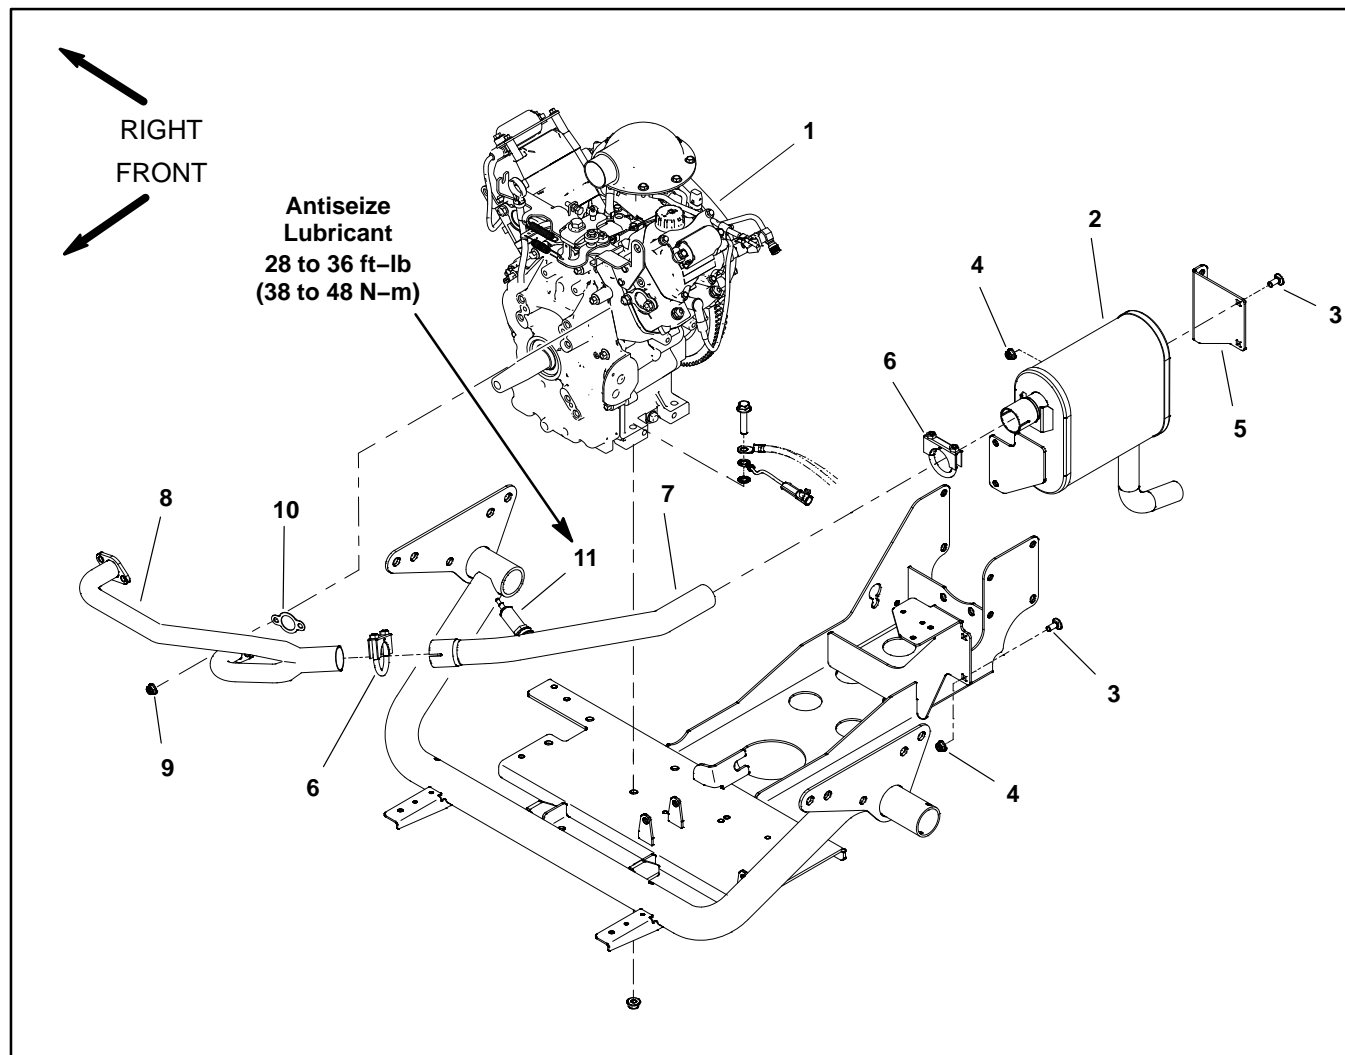

Figure 16
Removal (Fig. 16)
4. Remove exhaust system components as needed using Figure 16 as a guide.
Installation (Fig. 16)
2. Using Figure 16 as a guide, fit all exhaust components to vehicle before tightening any fasteners.
- A. If oxygen sensor (item 11) was removed from intermediate exhaust pipe, apply antiseize lubricant to threads of oxygen sensor before installation. Install and torque sensor from **28 to 36 ft-lb (38 to 48 N-m)**.